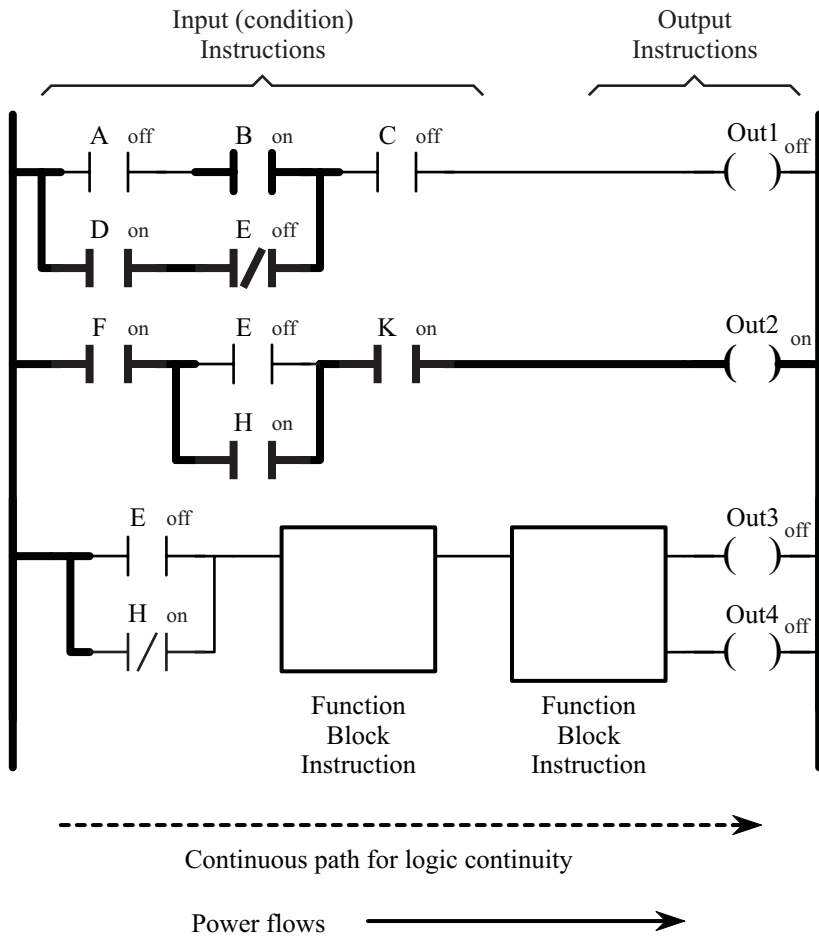
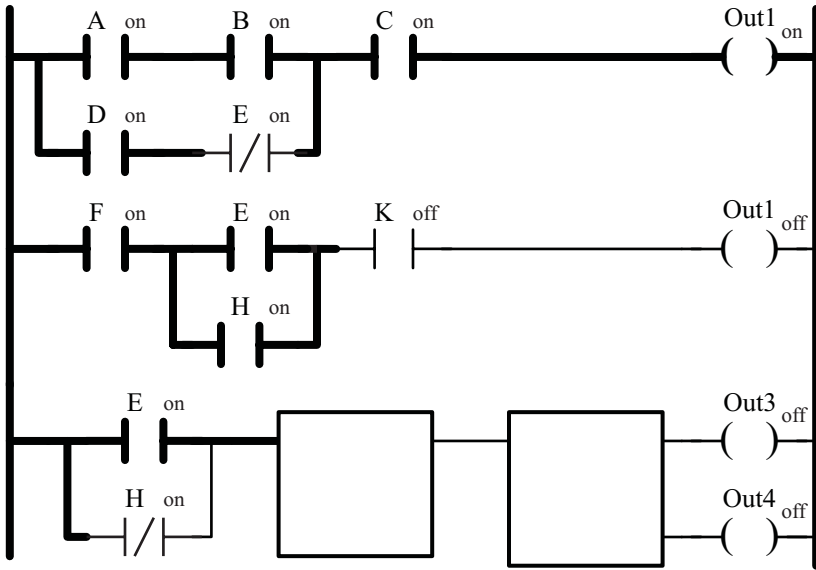
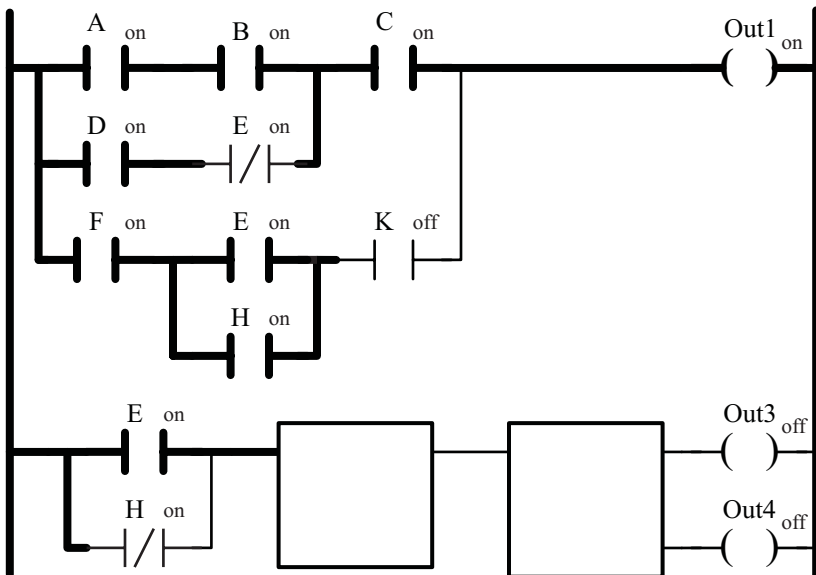

Figure 2.9. Sample ladder logic diagram.
Figure 2.14. Ladder with repeated output.
Figure 2.15. Repeated output corrected.
An example PLC ladder logic diagram appears in Figure 2.9. The vertical lines on the left and right are called the power rails. The contacts are arranged horizontally between the power rails, hence the term *rung*. The ladder diagram in Figure 2.9 has three rungs. The arrangement is similar to a ladder one uses to climb onto a roof. In addition, Figure 2.9
shows an example diagram like one would see if monitoring the running program in the PLC. The thick lines indicate continuity and the state (**on/off**) of the inputs and outputs is shown next to the tag. Regardless of the contact symbol, if the contact is closed (continuity through it), it is shown as thick lines. If the contact is open, it is shown as thin lines. In a relay ladder diagram, power flows from left to right. In PLC ladder logic, there is no real power flow, but there still must be a continuous path through closed contacts in order to energize an output. In Figure 2.9 the output on the first rung is **off** because the contact for C is open, blocking continuity through the D and E contacts. Also notice that the E input is **off**, which means the NC contact in the first rung is closed and the NO contact in the second rung is open.
Figure 2.9 also introduces the concept of *function block instructions*. Any instruction that is not a contact or a coil is called a function block instruction because of its appearance in the ladder diagram. The most common function block instructions are timer, counter, comparison, and computation operations. More advanced function block instructions include sequencer, shift register, and first-in first-out operations.
1. **DO NOT** repeat normal output coils or negated coils that refer to the same tag. To illustrate what happens when this is done, consider the ladder logic diagram in Figure 2.14. This is the ladder of Figure 2.9, modified for this illustration. Note that the coils for both the first and second rung refer to Out1. When the first rung of the ladder is scanned, Out1 is turned **on**. However, when the second rung is scanned, Out1 is turned **off**, overriding the logic in the first rung. If all of these conditions are needed to turn on Out1, then they all should be placed in parallel, as in Figure 2.15. In this illustration, it was obvious there is a problem. Normally,